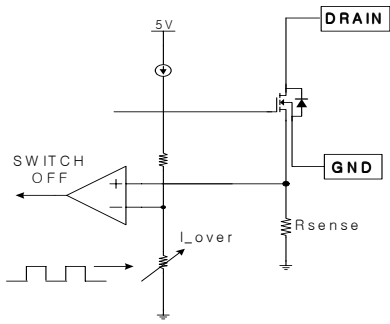

Figure 8. Soft Start Function
**5. Soft Start :** The FPSTM has an internal soft start circuit that increases the feedback voltage together with the Sense FET current slowly after it starts up. The typical soft start time is 15msec, as shown in figure 8, where progressive increments of Sense FET current are allowed during the start-up phase. The pulse width to the power switching device is progressively increased to establish the correct working conditions for transformers, inductors, and capacitors. The voltage on the output capacitors is progressively increased with the intention of smoothly establishing the required output voltage. It also helps to prevent transformer saturation and reduce the stress on the secondary diode.